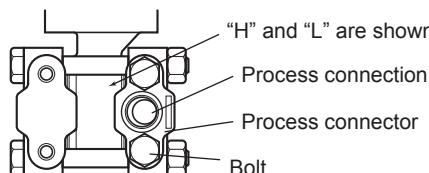

Figure 5.1 “H” and “L” Symbols on a Capsule Assembly
#### (1) Check the High and Low Pressure Connections on the Transmitter (Figure 5.1)